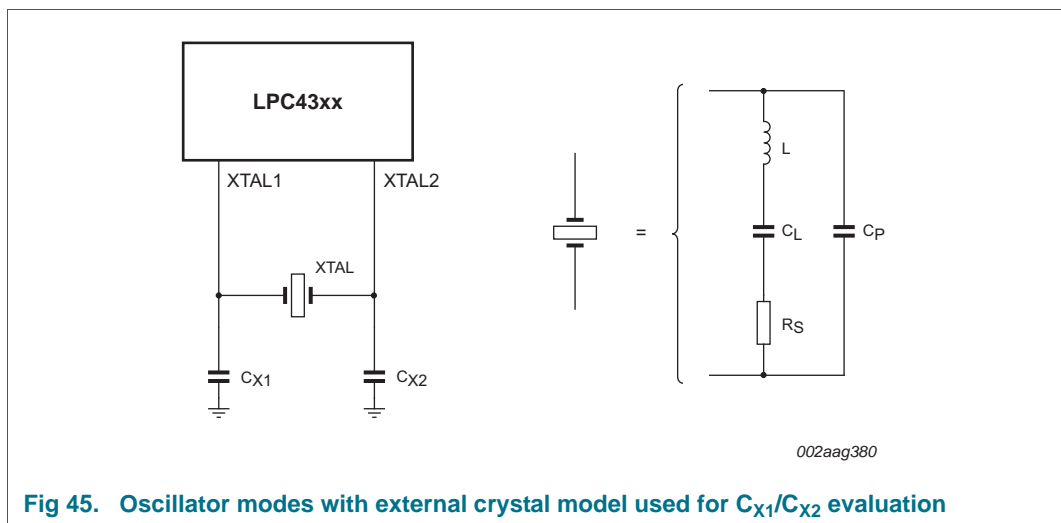

Fig 45. Oscillator modes with external crystal model used for C_{X1}/C_{X2} evaluation
- External components and models used in oscillation mode are shown in Figure 45, and in Table 39 and Table 40. Since the feedback resistance is integrated on chip, only a crystal and the capacitances C_{X1} and C_{X2} need to be connected externally in case of fundamental mode oscillation (L , C_L and R_s represent the fundamental frequency). The capacitance C_P in Figure 45 represents the parallel package capacitance and must not be larger than 7 pF. Parameters F_c , C_L , R_s and C_P are supplied by the crystal manufacturer.